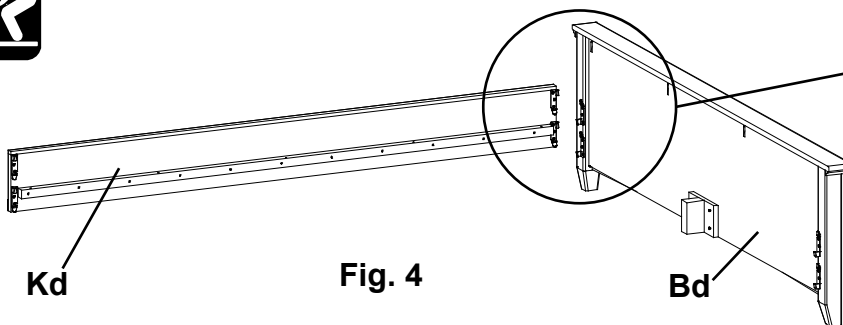

Fig. 4
4. To attach the Footboard (Bd) to the Side Rail (Kd), align the Brackets and slide the Side Rail (Kd) down on to the Footboard (Bd). See Figures 4 and 4a.